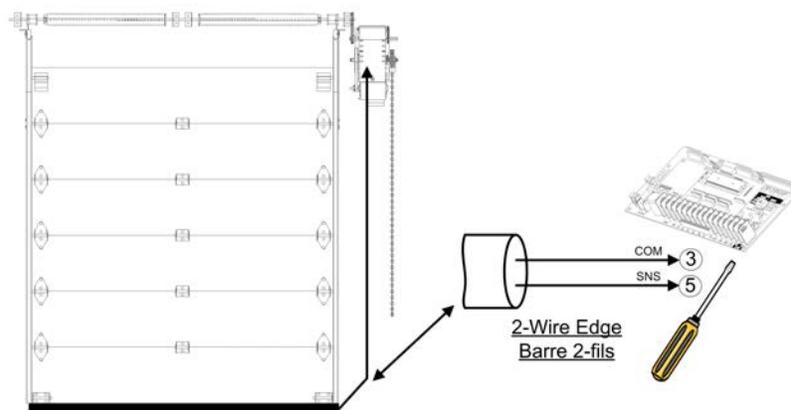

Figure 37 - Electric Reversing Edge
3. Use a coil cord or take-up reel to connect the sensing edge wires to the operator terminals. Install electric wires according to Figure 37.